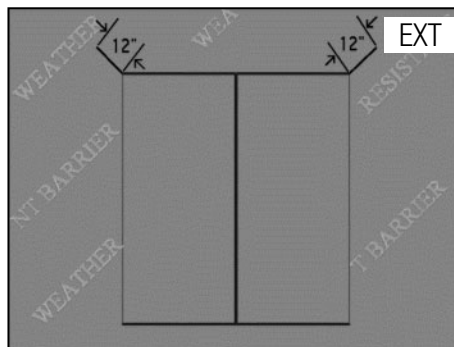

FIG. 3
- G) Cut the weather-resistant barrier (WRB) in a "Modified I" pattern. (Fig. 3)
- I) From the exterior, cut the top of the WRB to form a flap. (Fig. 3)